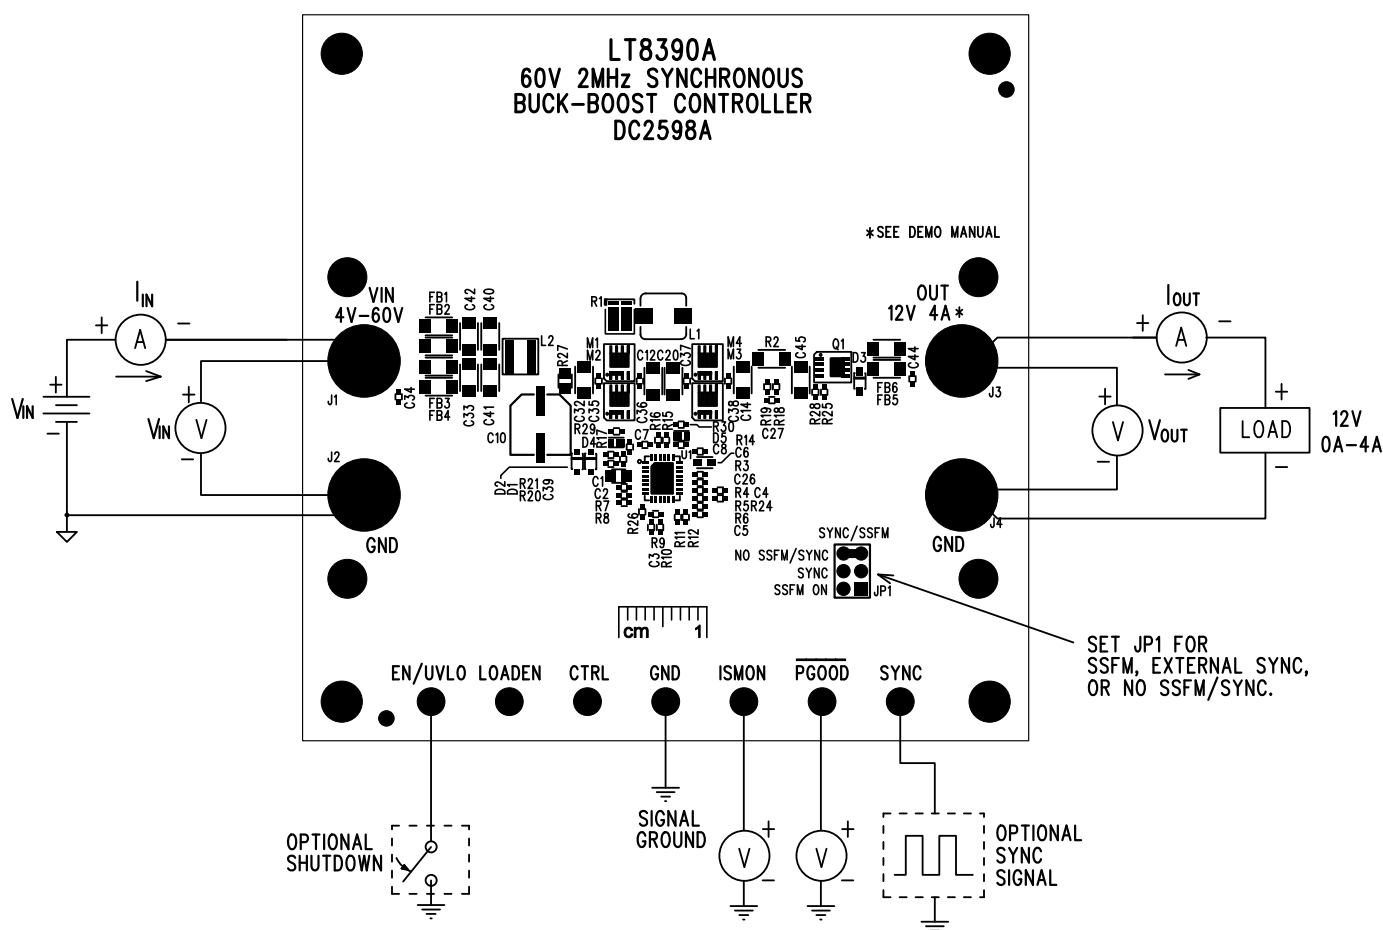

Figure 1. Test Procedure Setup Drawing For DC2598A
1. With the input power supply off, connect the input power supply and output load as shown in the test setup drawing in Figure 1.